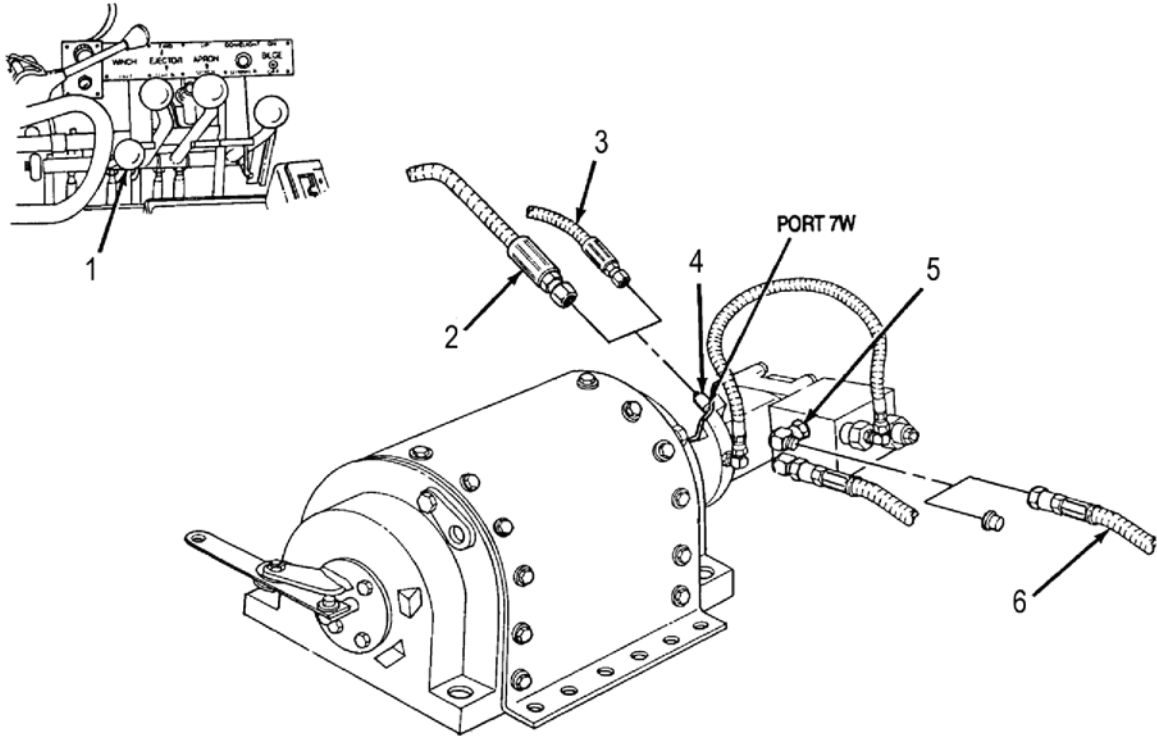

Figure 13. Winch Motor
- Disconnect WINCH DRAIN-7W hose (Figure 13, item 3) from winch motor port 7W and plug hose (Figure 13, item 3). Connect drain hose (Figure 13, item 2) to elbow (Figure 13, item 4) on port 7W and place end of hose (Figure 13, item 2) in container.
- Disconnect CONT-VLV-VA (FWD) hose (Figure 13, item 6) from winch. Plug hose (Figure 13, item 6) and cap elbow (Figure 13, item 5).
- Have assistant start vehicle engine and hold WINCH CONTROL lever (Figure 13, item 1) in PAY IN position. With lever held in PAY IN position and oil flowing, move drain hose 7W (Figure 13, item 2) to a graduated container for exactly 15 seconds. Return WINCH CONTROL lever (Figure 13, item 1) to NEUTRAL position.
- Measure oil in graduated container. Allowable internal leakage flow from drain hose (Figure 13, item 2) is 1.25 qts (1.18 L) in 15 seconds or 1.25 gpm (4.73 Lpm).